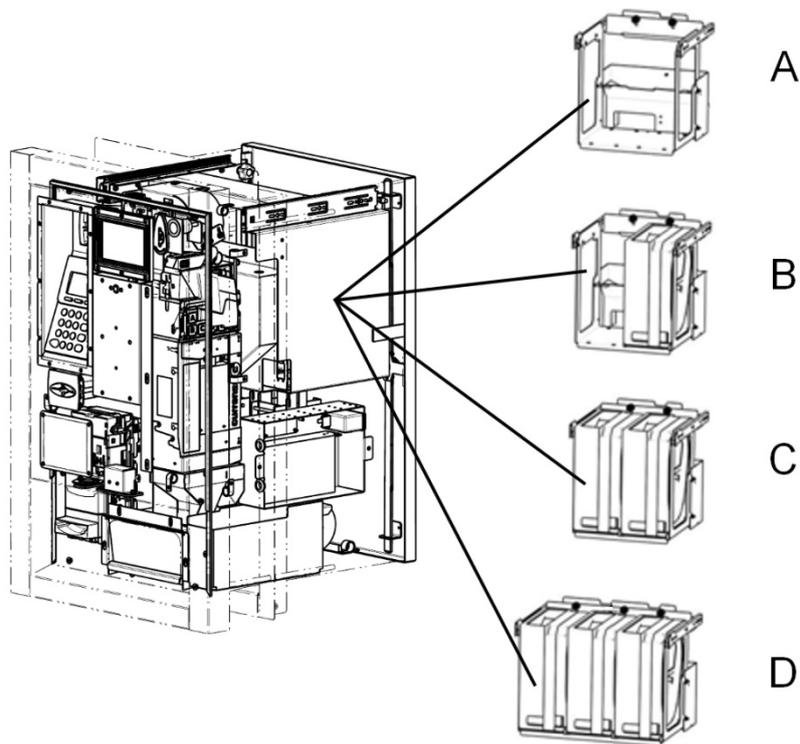

Figure 12
In the recessed cabinet version, hoppers are located as shown in Figure 12 above. You have the option to install no hopper (A), a single hopper (B), two hoppers (C) or three hoppers (D).